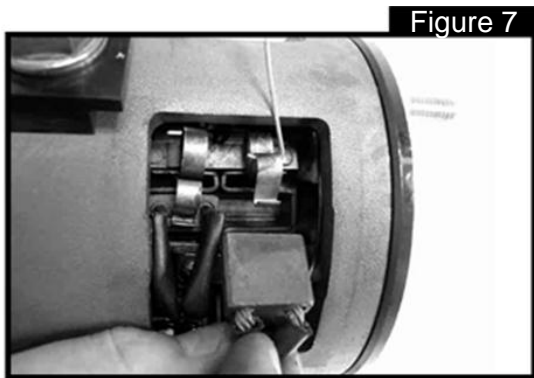

Figure 7
3. Pull springs upward with tool shown in fig. 7, and remove the brushes.